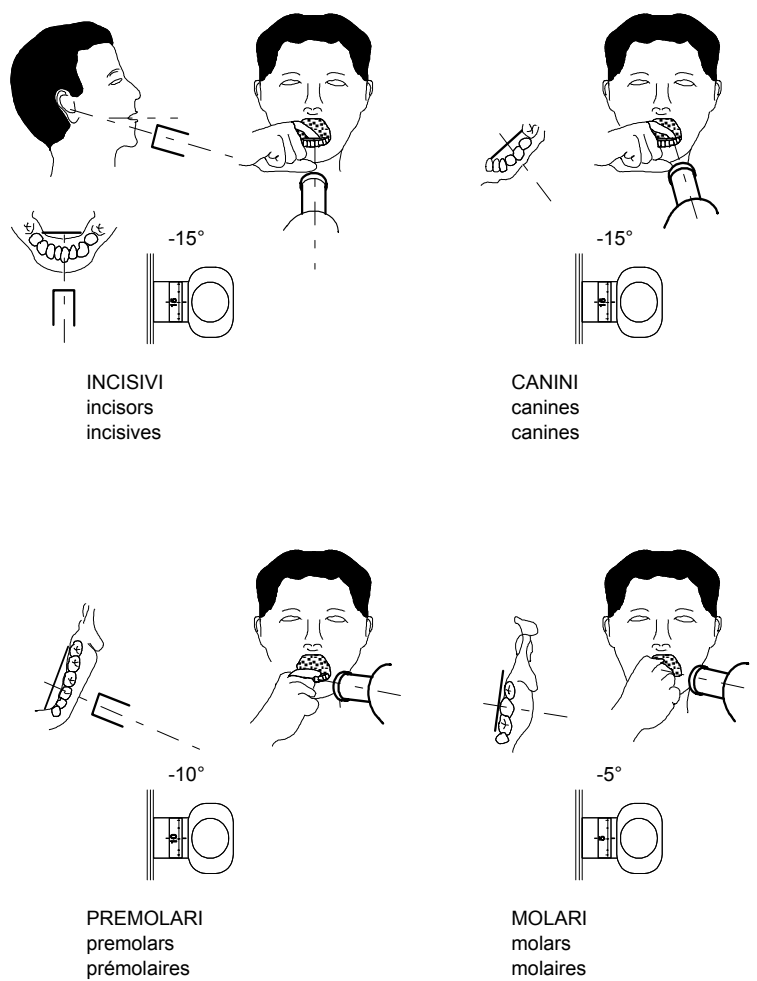
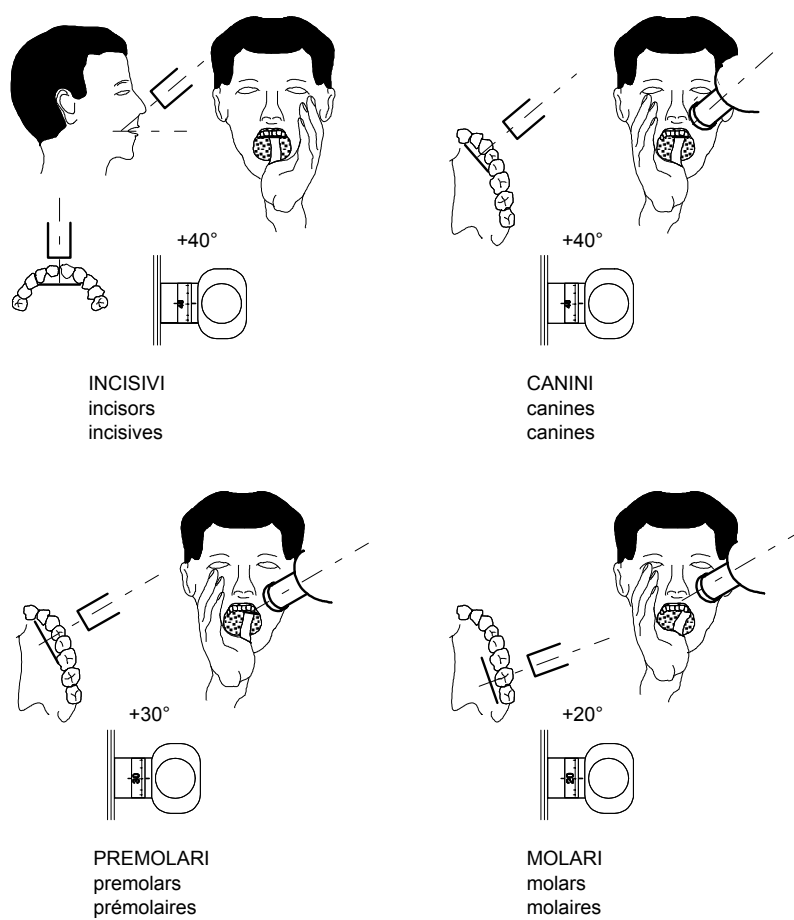
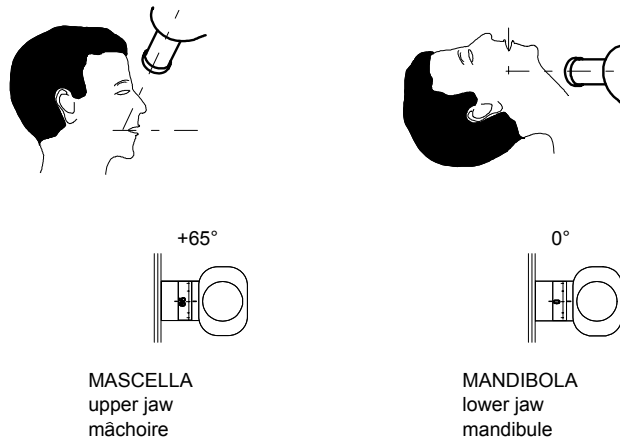
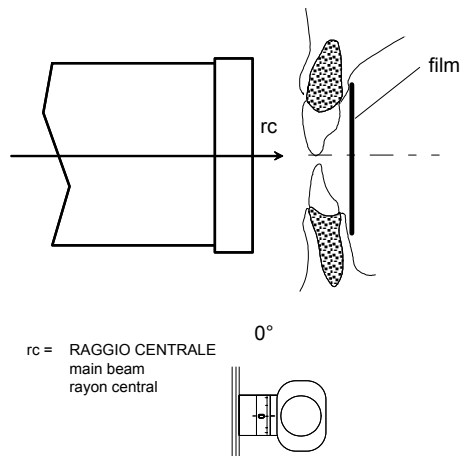

Figure 12
Figure 13
Figure 14
Figure 15
- a) Set the tubehead with an angle suitable for the exposure and positioning requested (see Figure 12, Figure 13, Figure 14, Figure 15).